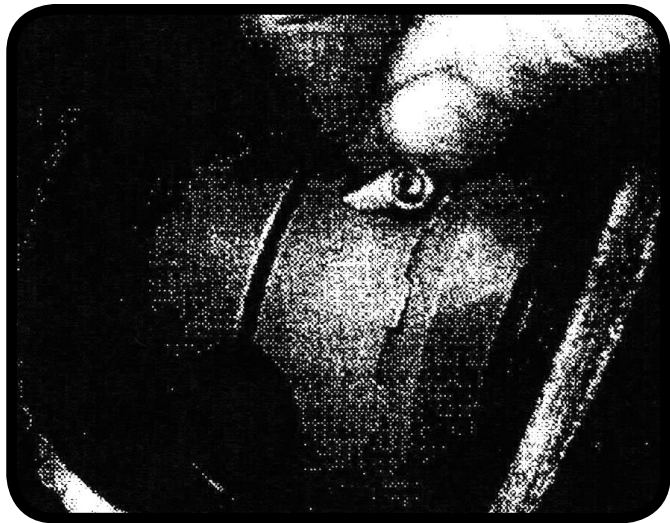
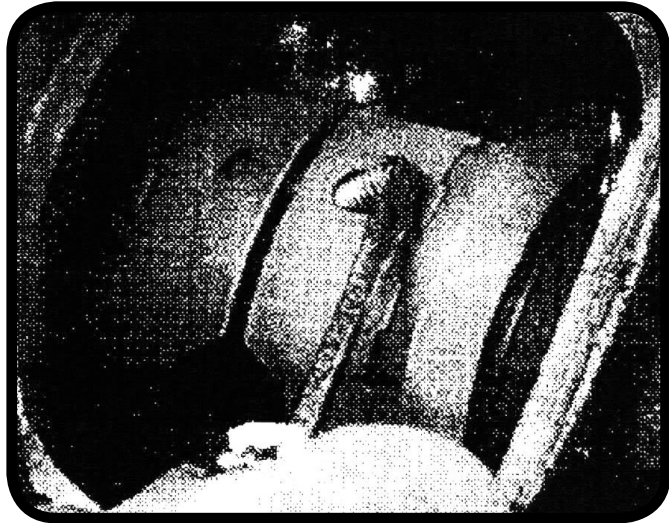
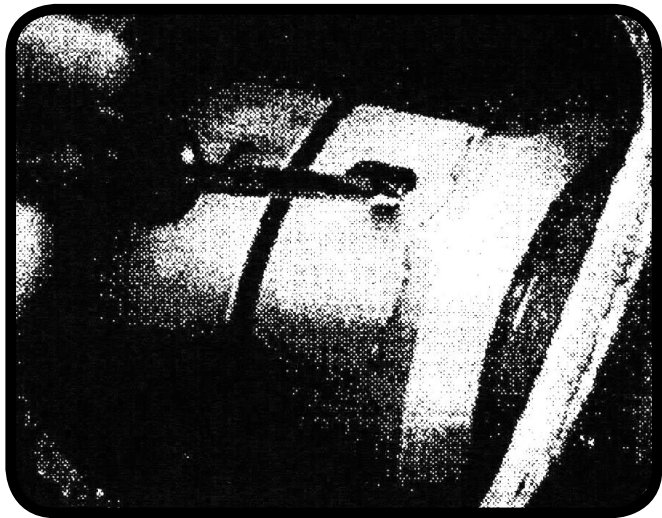

Figure 10
Figure 11
Figure 12
3. Place one end of a spring assembly into the window hole, behind the pin (**Figure 10**). Compress it with a small screwdriver and pop the bottom into the window hold (**Figure 11**). Push on the bottom coils to be sure that the spring snaps in and is seated all the way (**Figure 12**). **Rotate the drivers** and do the same procedure for each of the other three pins and springs.